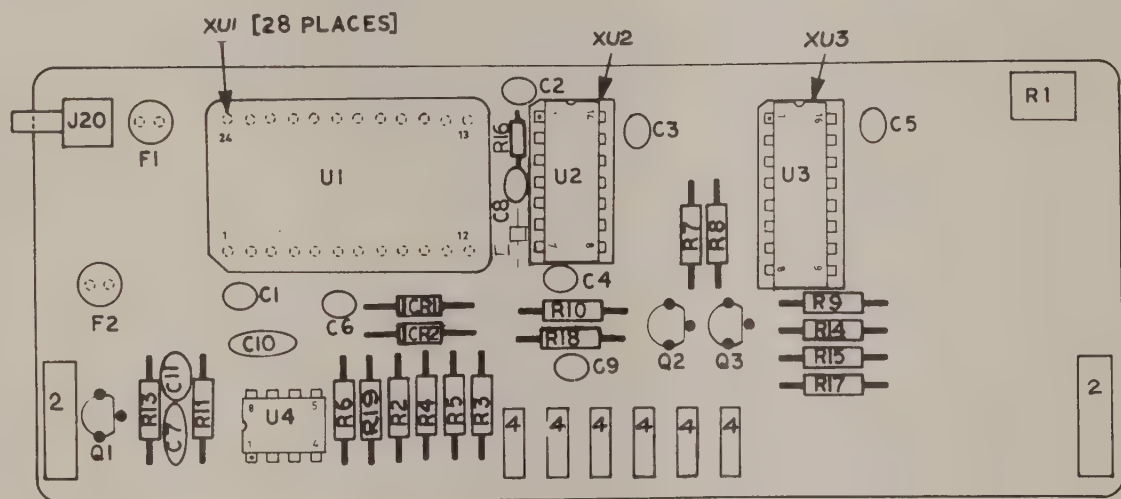

Figure 614-2. 1.25 GHz Prescaler PCB, Assembly
- 614-18. Table 614-1 is a list of replaceable parts for the 1.25 GHz prescaler. Refer to Section 5 for an explanation of the columnar entries. The component locations are illustrated in Figure 614-2.
-14	1.25 GHz PRESCALER PCB ASEMBLY (1953A-1228) Figure 614-2